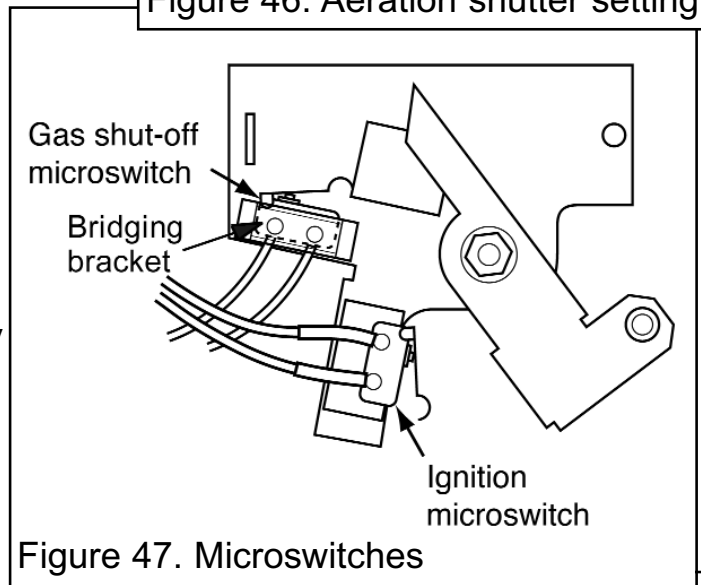

Figure 47. Microswitches
See figures 47 & 48.
2. Disconnect the leads from the ignition microswitch (The lower of the two microswitches - See figure 47).
(See figures 47 & 48).
3. Detach the bridging bracket, microswitch assembly by removing two screws (See figure 47).